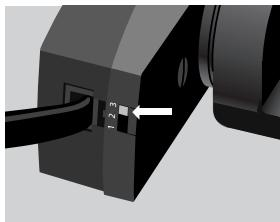

Figure 2-8. Replacing the Lifting Film.
2. If the Hookswitch is activated and you cannot hear a dial tone, you should increase the lifting height. To do so, press the red button on the remote again to lower the handset to the cradle. Then move the lifting-height termination switch to position 3 and try again (Figure 2-8).